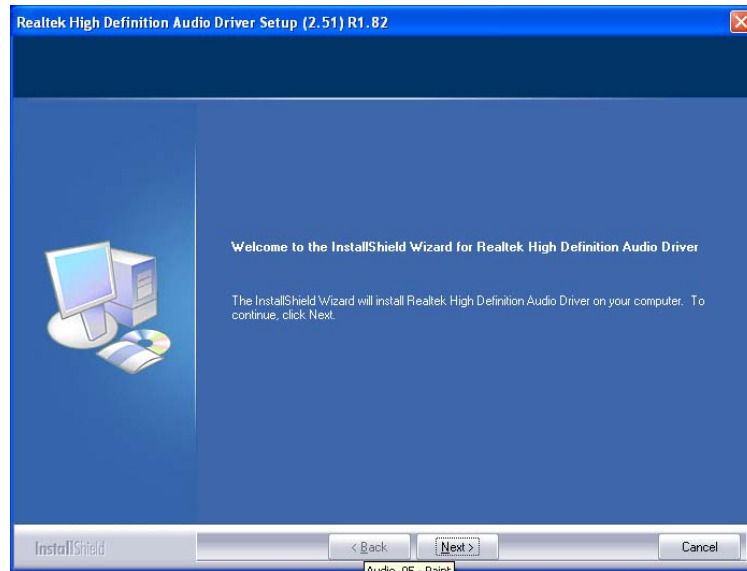

Figure 8-25: InstallShield Wizard Welcome Screen
Step 9: Once initialized, the InstallShield Wizard welcome screen appears (**Figure 8-25**).